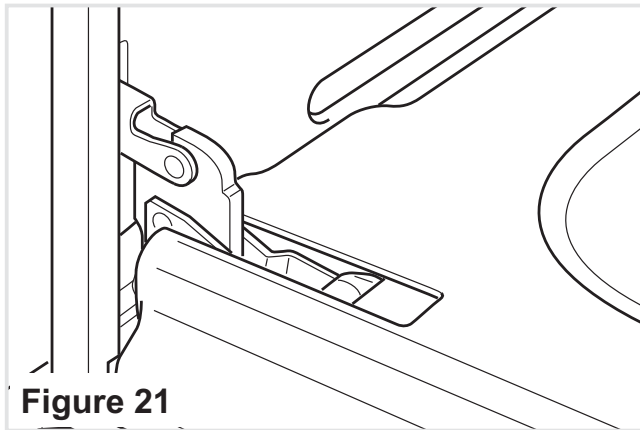

Figure 21
- Open the door to the full extent (fig. 21).